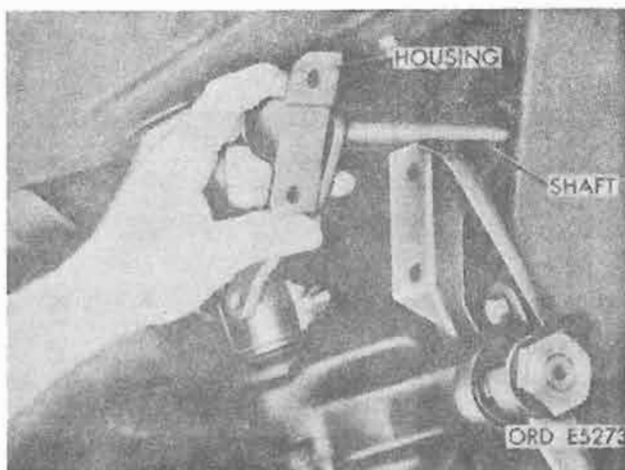

Figure 4-23. Clutch cross shaft and housing.
(15) Remove clutch release lever and housing (fig. 4-23).